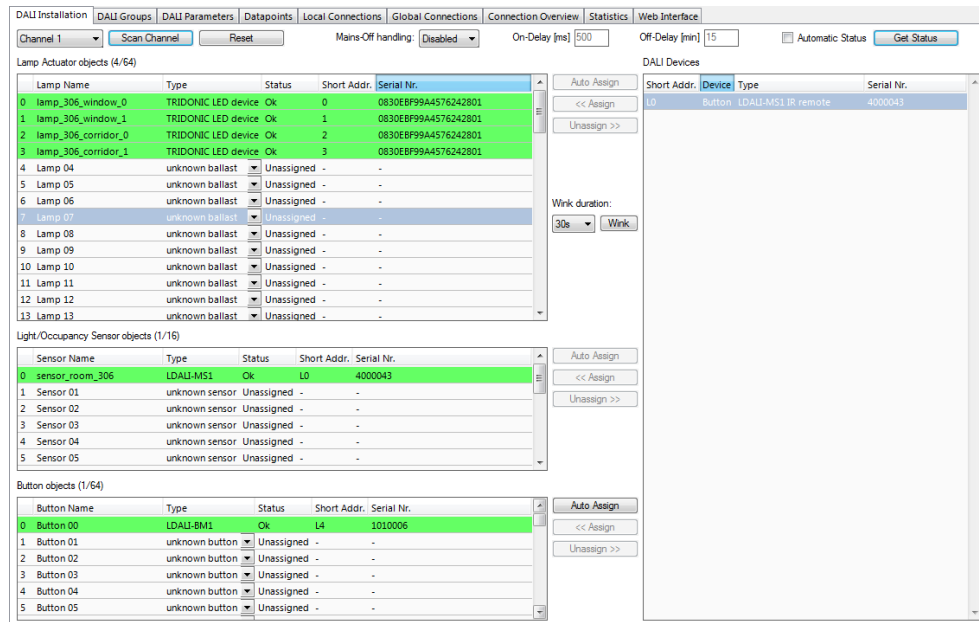

Figure 45: LINX Configurator software, After Configuration Download.
- After the download is complete, go back to the DALI Installation tab and press the **Get Status** button. Now the assigned DALI devices are displayed on a green background (see Figure 45). The green background color indicates that the communication with the device is OK. If there is a communication error, the device will be displayed with a red background color.